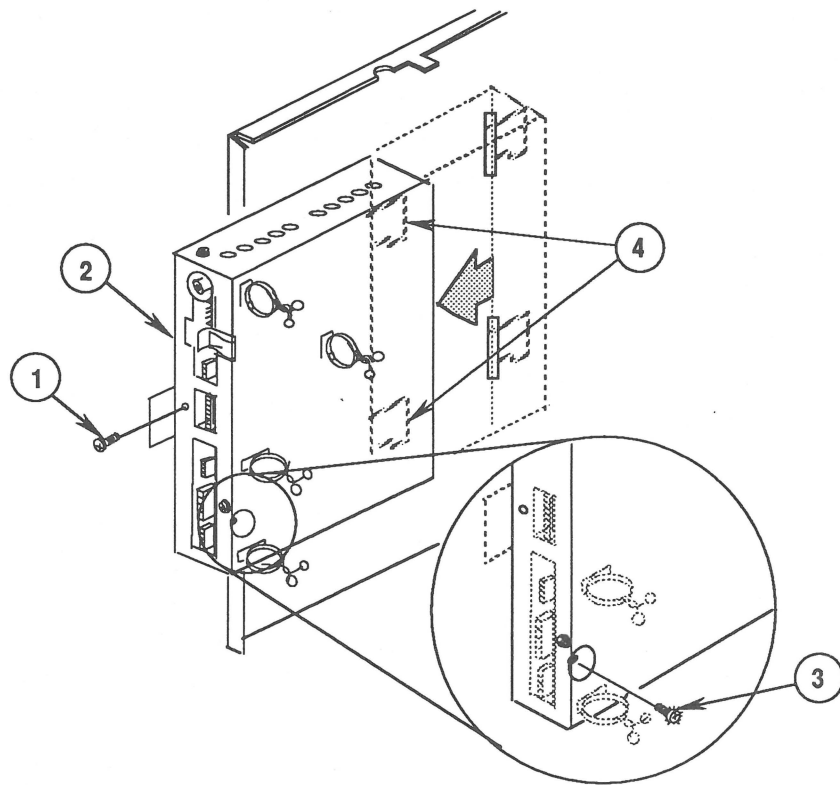

FIGURE 20
10. Remove the screw (Figure 20, #1) that secures the video board case (Figure 20, #2) to the chassis, and remove the case with the video board.
11. Remove the video board mounting screw (Figure 20, #3) through the back of the video board case.
3. Replace the video board mounting screw (Figure 20, #3) through the back of the case.
4. Replace the video board case on the left chassis panel. To do this, insert the two case tabs (Figure 20, #4) into the two slots in the chassis panel, and align the mounting holes.
5. Replace the case mounting screw (Figure 20, #2).